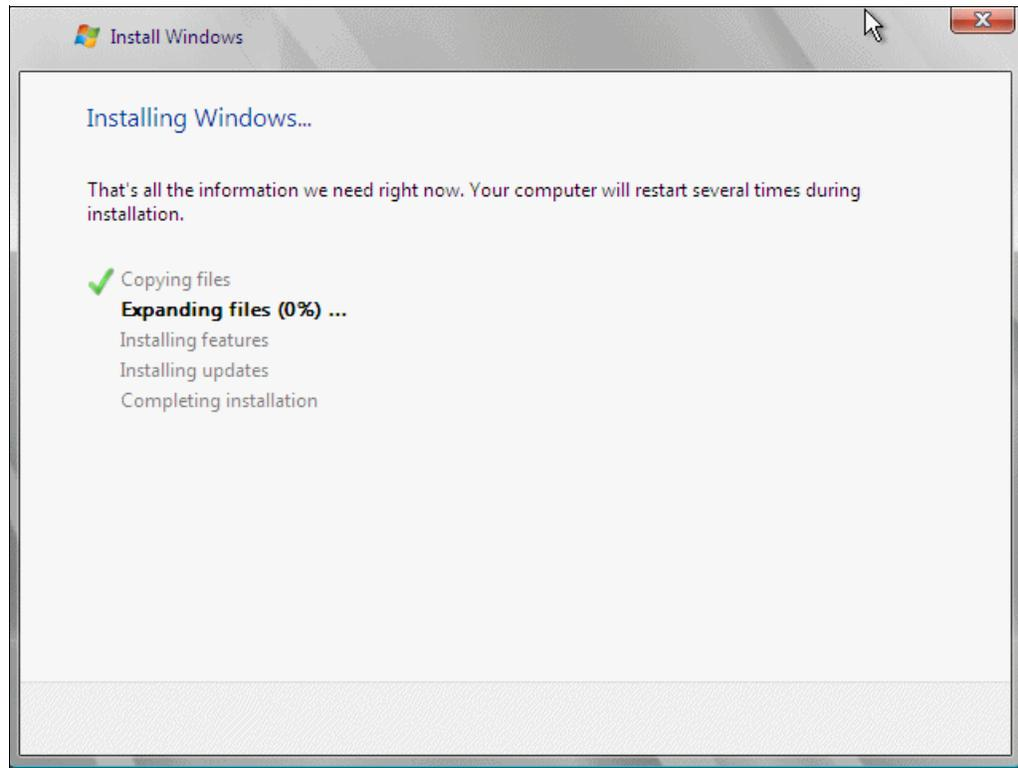

Figure 10-46 Installing Windows screen
9. Click **Next** again to leave the “Windows creates the partition automatically” window or click **Drive options (advanced)** to create the partition. Then click **Next** to start the installation process, as shown in Figure 10-46.